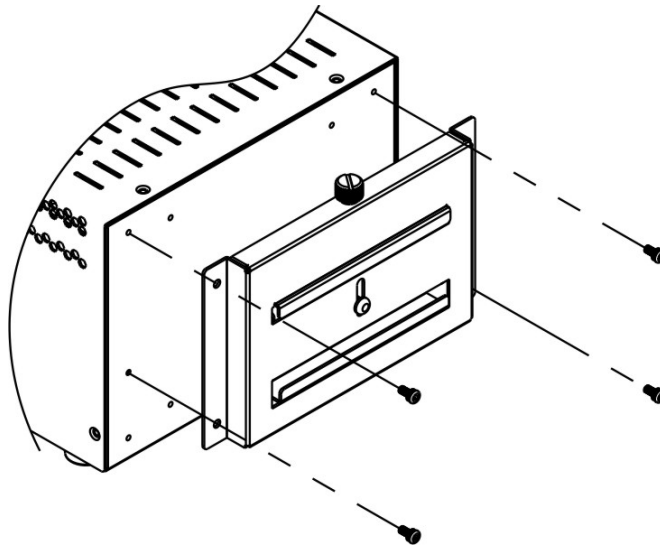

Figure 4-9: DIN Rail Mounting Bracket
Step 3: Attach the DIN rail mounting bracket to the bottom panel of the embedded system. Secure the bracket to the embedded system with the supplied retention screws (Figure 4-9).